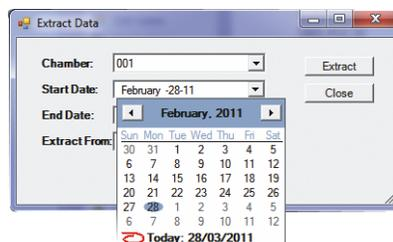

Figure 3-9 Select Start Date
2. Select the start date (Figure 3-9).